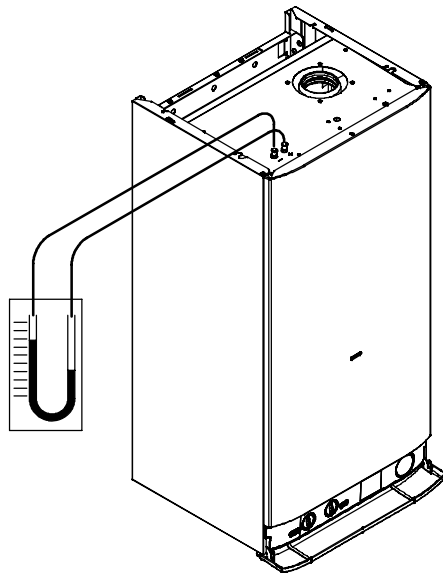

Fig. 80
- 1 Remove the caps of the pressure test points located on the top of the boiler and connect a differential pressure gauge (Fig. 80).